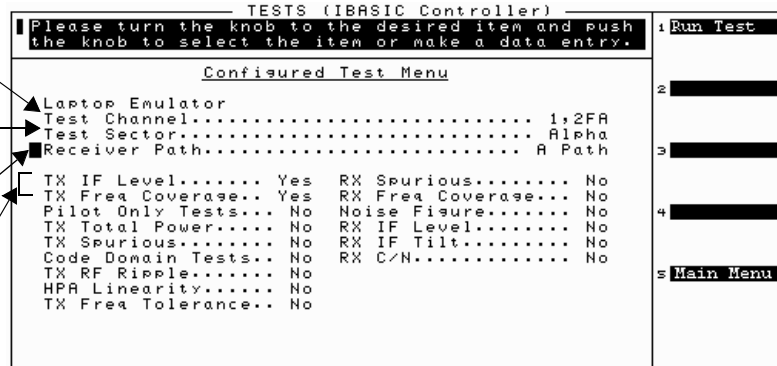

Figure 14 Test Selection Menu Screen
3. Select (set to Yes) a channel or a suite of channels you want to test in the Choices : menu. Note that the numbers of frequency assignment (FA) appears in the choices list instead of the channel numbers you have entered into the Channel Information table in the BTS Configuration menu.
4. Select Done to exit channel selection mode. The FA numbers you have selected are shown in the Test Channel field. See figure 14 on page 58.
Note that the Software and Test Set will test only the sectors you have set to Yes when running tests. See figure 14.
The Software and Test Set will test the receiver path you have selected when running tests. See figure 14 on page 58.
Tests are selected in the `Test Selection` menu. Position the cursor in front of the test item you want to run and press the knob to select the test (set to `Yes`). Notice that the Software can perform a suite of transceiver tests on the selected channels and sectors at one time. See figure 14 on page 58.